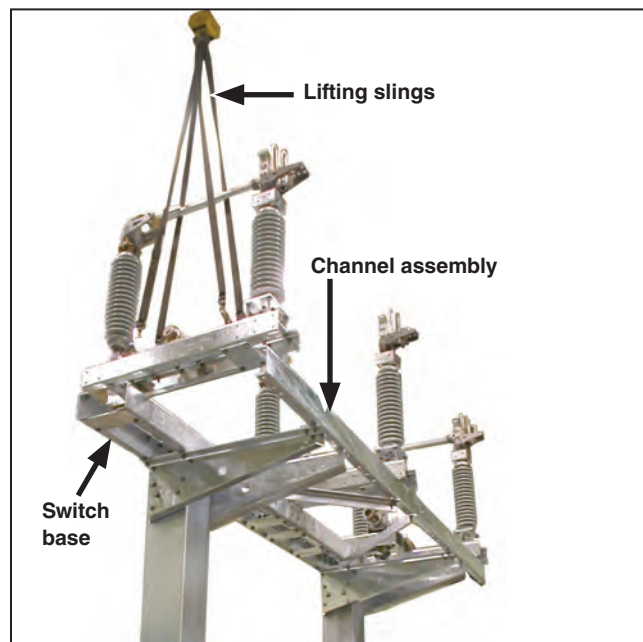

Figure 12. Secure the disconnect pole-unit to the switch base and channel assembly.
STEP 3. Bolt the hinge end of the disconnect pole-unit to the switch base using four $\frac{5}{8}$ -11 \times $2\frac{1}{4}$ -inch hex-head cap screws, flat washers, and hex nuts furnished. Bolt the jaw end of the disconnect pole unit to the channel assembly using two $\frac{5}{8}$ -11 \times $2\frac{1}{4}$ -inch hex-head cap screws, flat washers, and self-locking hex nuts furnished. See Figure 12.